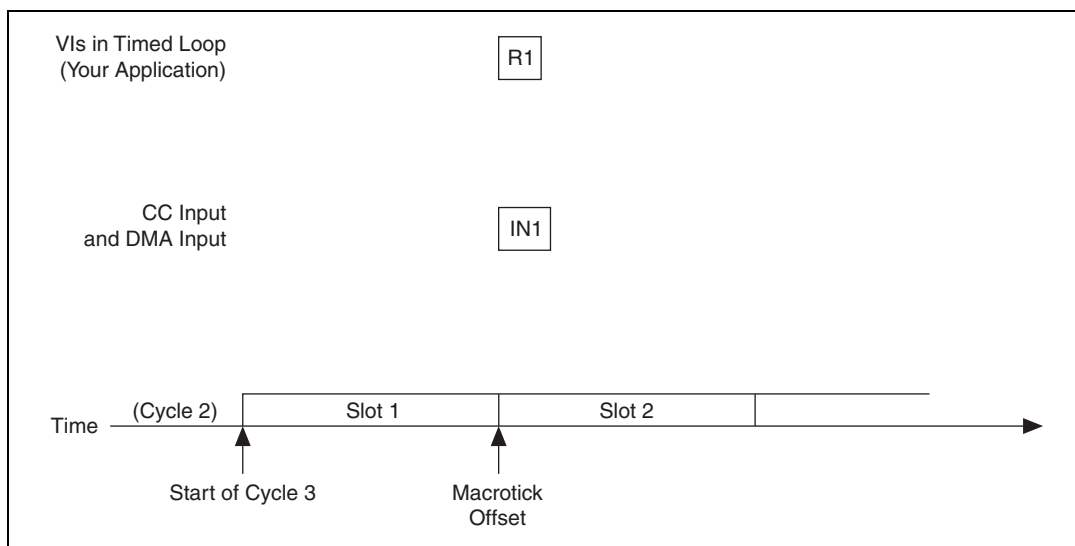
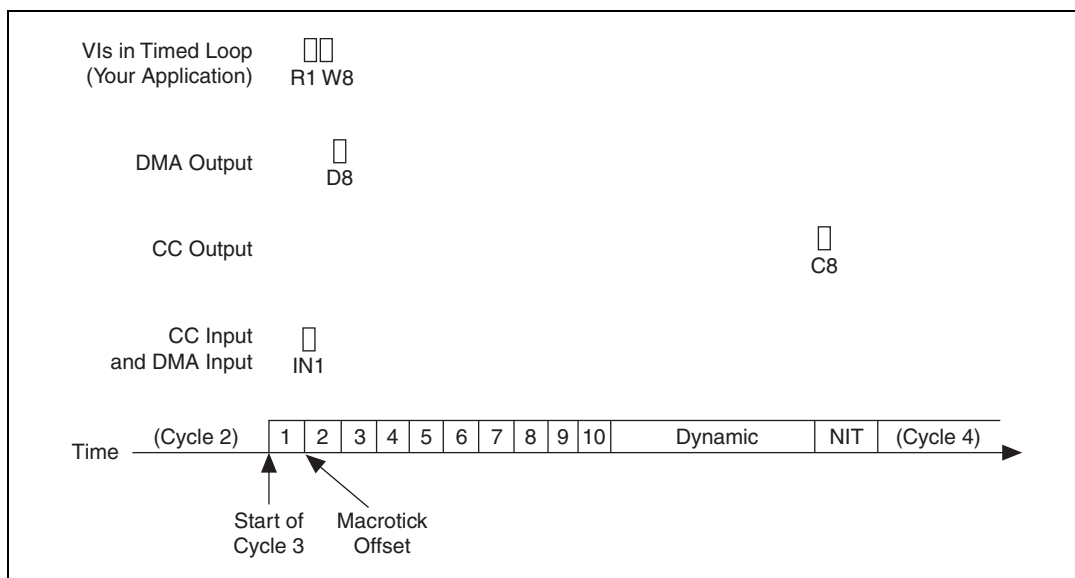

Figure 4-12. FlexRay Frame Timed Read
Figure 4-13. FlexRay Frame Timed Write
Figure 4-12 shows the effects of this implementation. In this example, the **macrotick offset** is set to occur at the end of slot 1. The subdiagram in the Timed Loop calls **XNET Read.vi** to read the value received from slot 1.
For better visibility in Figures 4-12, 4-13, and 4-14, the NI-XNET blocks (Read/Write, DMA I/O, an dCC I/O) are longer than actual performance. When using a PXI controller for LabVIEW Real-Time, your results typically will be faster. This is especially true if your application does not transfer data on the PXI backplane continuously (for example, streaming analog, vision, or TCP/IP data), as this sort of transfer can adversely impact the NI-XNET DMA latencies.
Figure 4-12 shows that the DMA input transfer for slot 1 (IN1) occurs at the same time as **XNET Read.vi** for slot 1 (R1). Depending on which one completes first, **XNET Read.vi** may return a value from the current cycle (3) or the previous cycle (2).
To prevent this uncertainty, **macrotick offset** must be large enough to ensure that the frame DMA input is complete. Relative to Figure 4-12, setting **macrotick offset** to the end of slot 2 would suffice.
Figure 4-13 shows the effects of this implementation. This example expands on Figure 4-12 by calling **XNET Write.vi** with a value for slot 8. **XNET Write.vi** (W8) is called well in advance of slot 8 in the cycle. The DMA output transfer for the value of slot 8 (D8) occurs immediately after **XNET Write.vi**. Nevertheless, the value for slot 8 is not placed into the FlexRay Communication Controller until the NIT time, shown as C8. This means that although **XNET Write.vi** was called before slot 8's occurrence in the current cycle 3, that value does not transmit until the subsequent cycle 4.